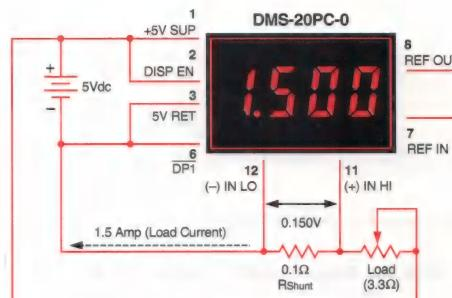

Figure 9. DC Ammeter Circuit
7. **Digital Ammeter:** Digital ammeters are finding ever-increasing usage because analog-style ammeters (moving-vane types) now cost roughly the same as their digital counterparts. Additionally, analog ammeters are not nearly as rugged as modern digital panel voltmeters. Figure 9 illustrates a typical ammeter application. The circuit uses a $\pm 200\text{mV}$ input meter — the preferred range for most ammeters — to measure the voltage developed across a 0.1Ω current shunt. The circuit shown represents a basic ammeter connection diagram. A detailed application note describing digital dc ammeters is included in DATEL's new Digital Panel Meter Databook.